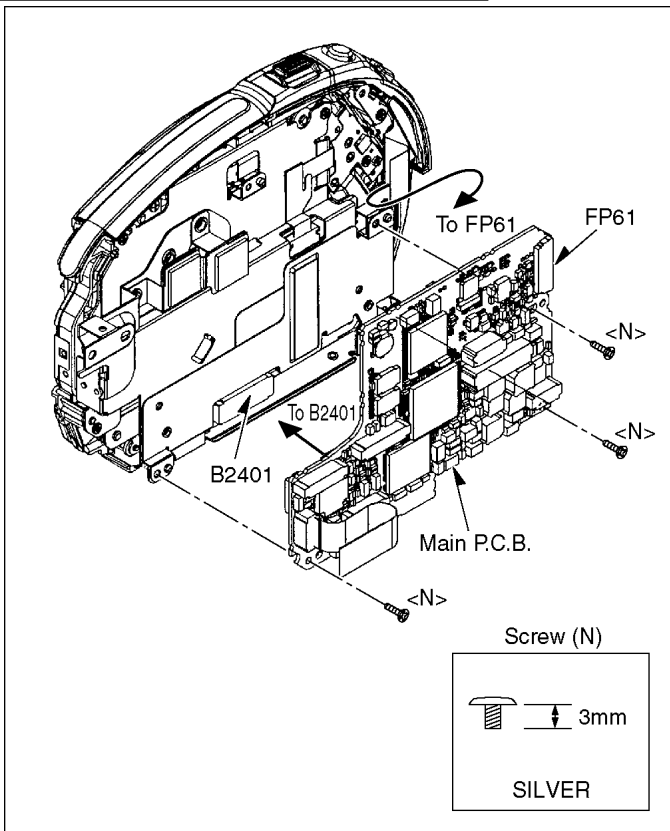

Fig. D9
| 7 | Main P.C.B. | Fig. D9 | 1-Connector FP61 3-Screws (N) 1-Connector B2401 Main P.C.B. |